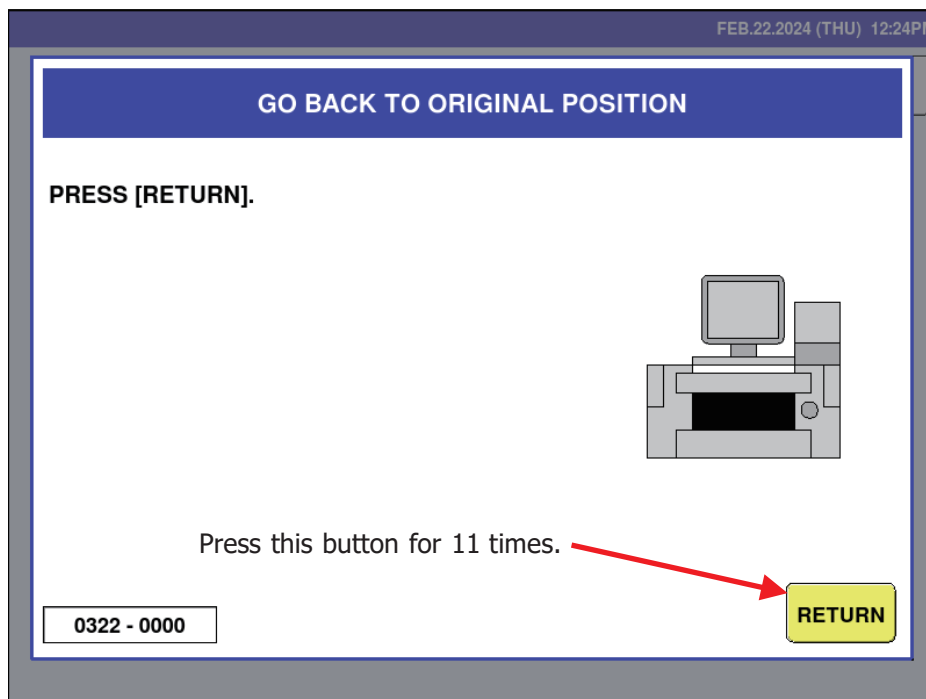

Fig. 1 Screen when the power is ON.
- 2 Turn ON the power of the wrapper unit as shown in Fig. 1.
- 4 With the condition above, press the return key of the wrapper unit for 11 times. The screen in fig. 1 will be released and returned to the normal screen.